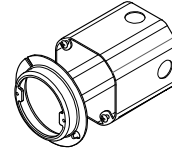

FIG 1.1 Junction Box Type Required
Step 1 Determine Power Supply type and junction box requirements - **FIG 1.1**.